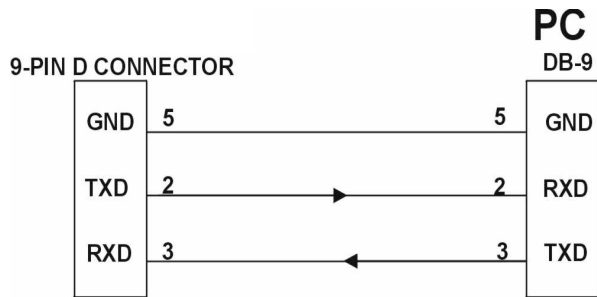

Figure 1: DB-9 Serial Connection
*Note: Make sure that the transmit pin of the control unit is connected to the receive pin of the **MT100-106**. Also, make sure that the receive pin of the control unit is connected to the transmit pin of the **MT100-106**. See figure 1 and 2.*